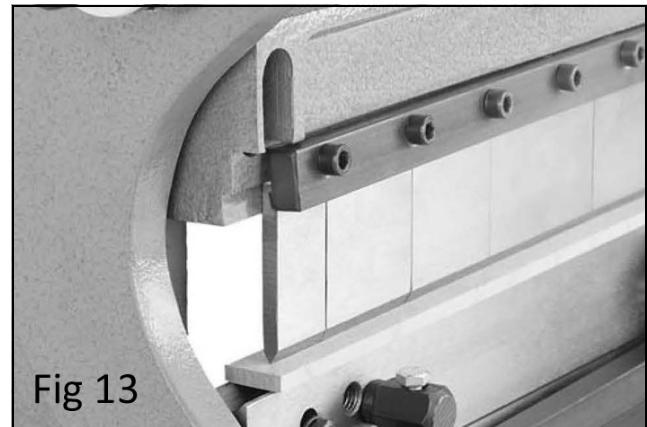

Fig 13
7. Place a thin piece of wood on the finger receiver, as shown in Figure 13, then reinstall the fingers so that they rest on the wood. Make sure the tops of the fingers are between the screw and the casting.